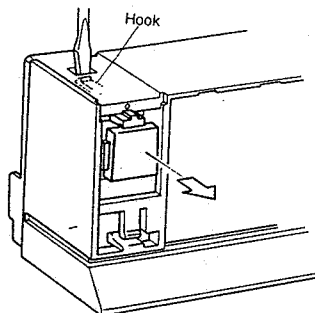

Fig. 8
- 5) Pull out the POWER button while depressing the tab of the POWER button. (See figure 8)